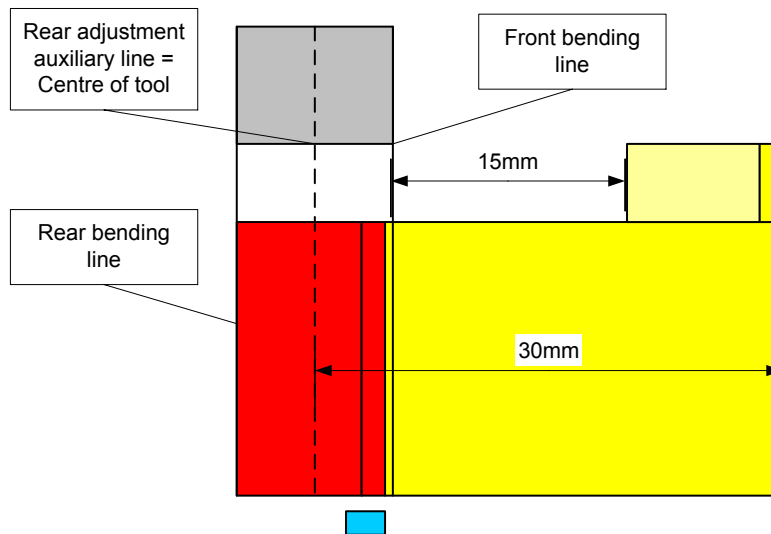

Fig. 4: Protected field² for stamping tool of tool class 1 (max. 32mm width)
- ▶ Stamping tool (width from 4-32mm), see Fig. 4